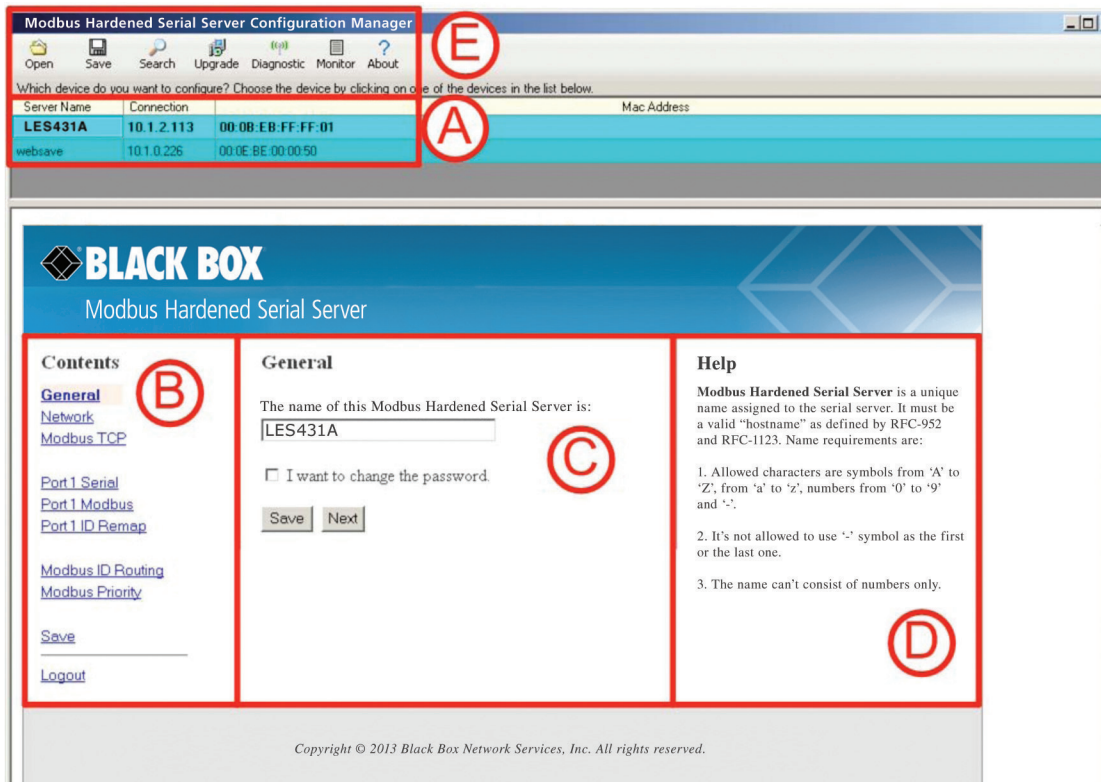

Figure 3-15. Settings Screen Overview.
6. See the Modbus Hardened Serial Server Manager Settings Screen Overview in Figure 3-15.